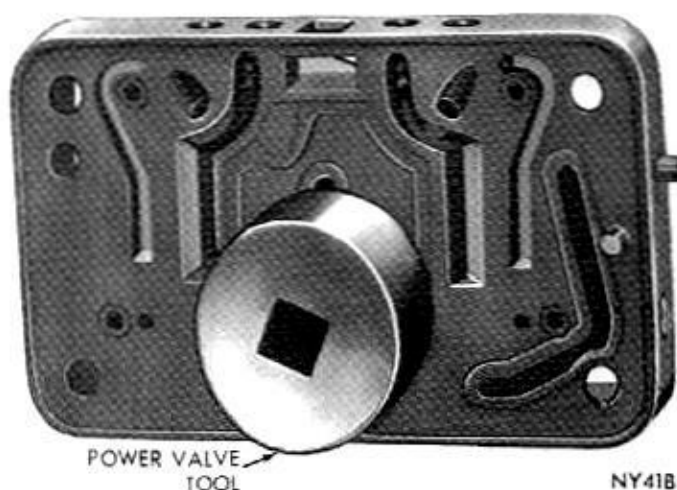

Fig. 7—Removing or Installing Power Valve
(2) Slide a new gasket over power valve and install, using Tool C-3747. Tighten securely (Fig. 7).